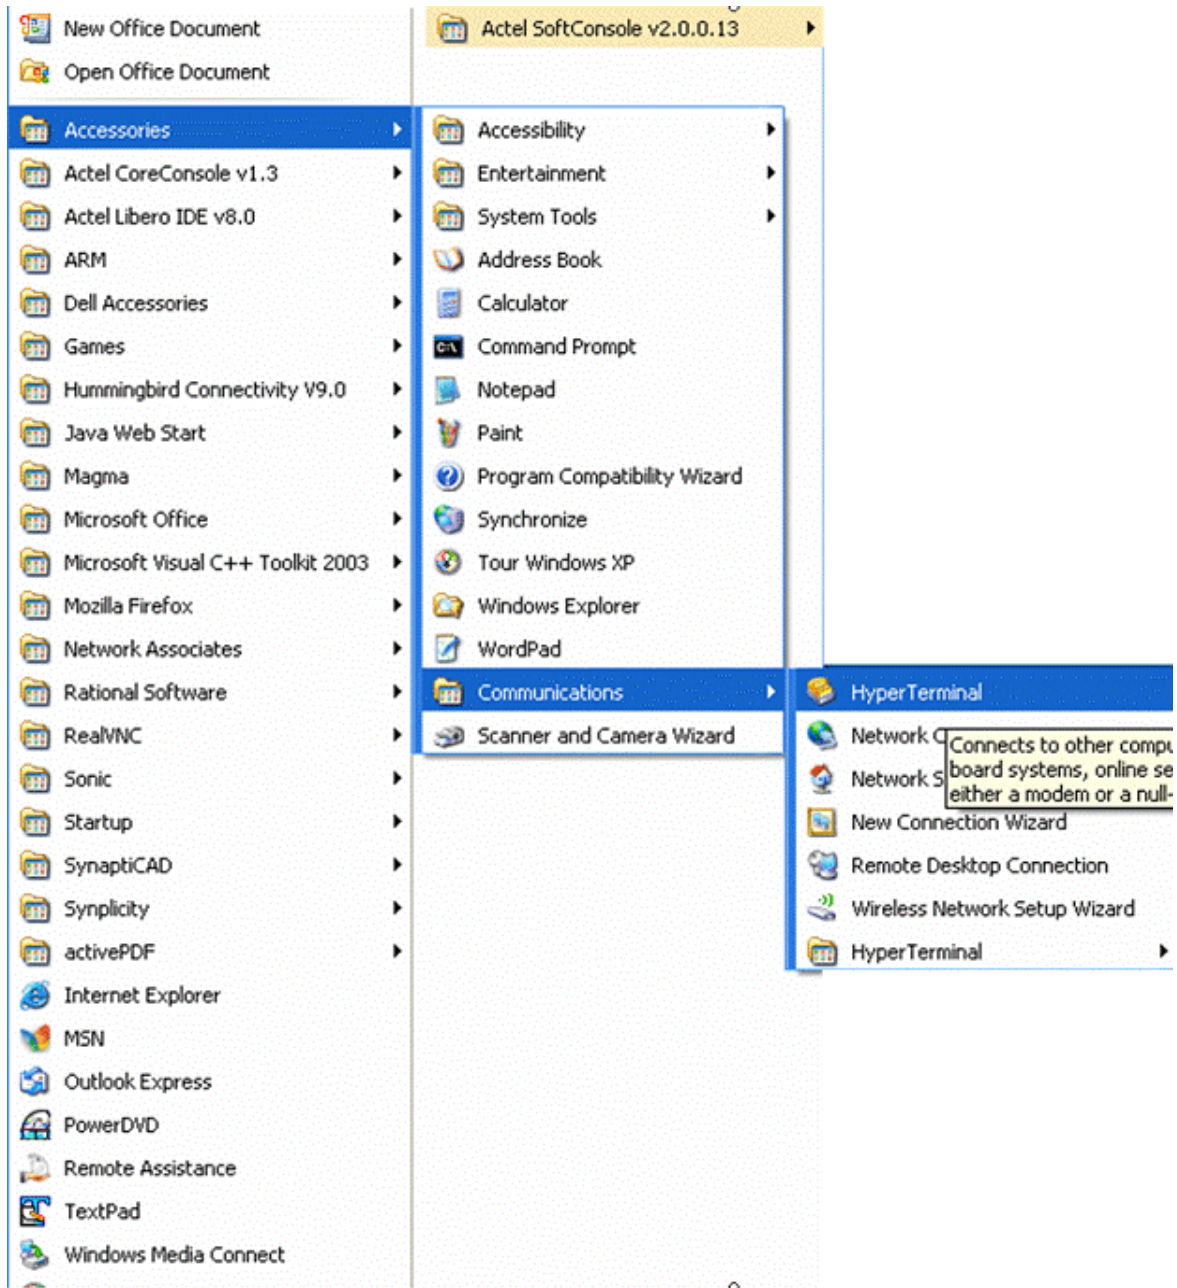

Figure 7-5 • HyperTerminal Program Setup
1. Open the Windows start menu. Select **All > Programs > Accessories > Communications** and select the HyperTerminal program (Figure 7-5). This opens HyperTerminal.